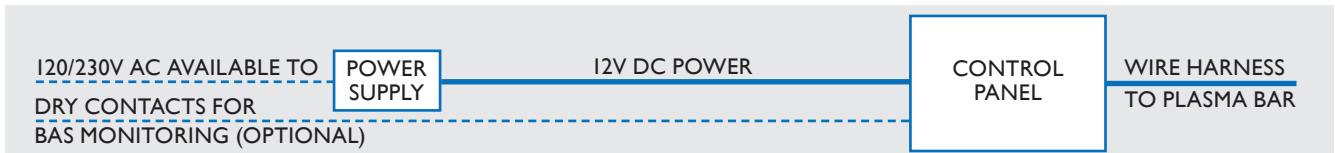

FIGURE 3
- OPTION 1:** Connect 24V AC directly to the power input terminal block on the control panel where indicated. The line and neutral wires can be connected to either screw terminal. (See Figure 3 & 4).
- OPTION 2:** Use a factory supplied 120V/230V AC to 12V DC power supply. A 12V DC 2.1mm pin connector shall be inserted into the 12V DC in/out pin located on the control panel. (See Figure 3 & 4). Do not use an extension cord.